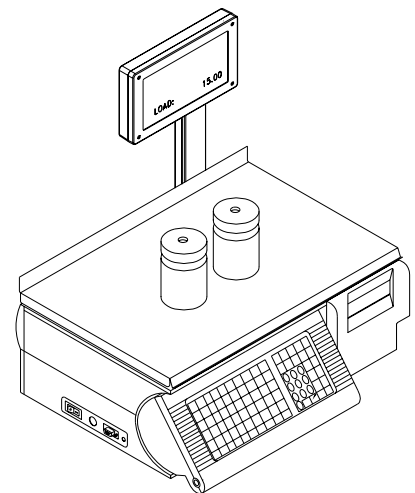

Figure 3-5: Add Weights
3. The scale will next ask for amount of test weight: **Load: 10.00**. Recommended minimum test weights are 20 lb or 10 kg (Figure 3-5). Place the test weight on the scale pan. Enter the amount of the test weight, then press the ENTER key (or just press ENTER if the displayed value is correct). The display will show **Capturing Span...**, and the top display will count down from 15 while setting span (full capacity).